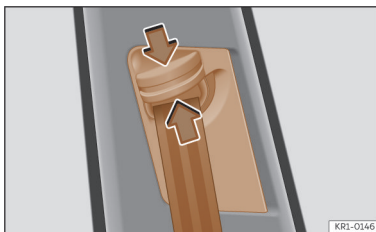

Fig. 24 Near the front seats: seat belt height regulator.
- Keep the guide device pressed down in the direction of the arrow >>> Fig. 24.